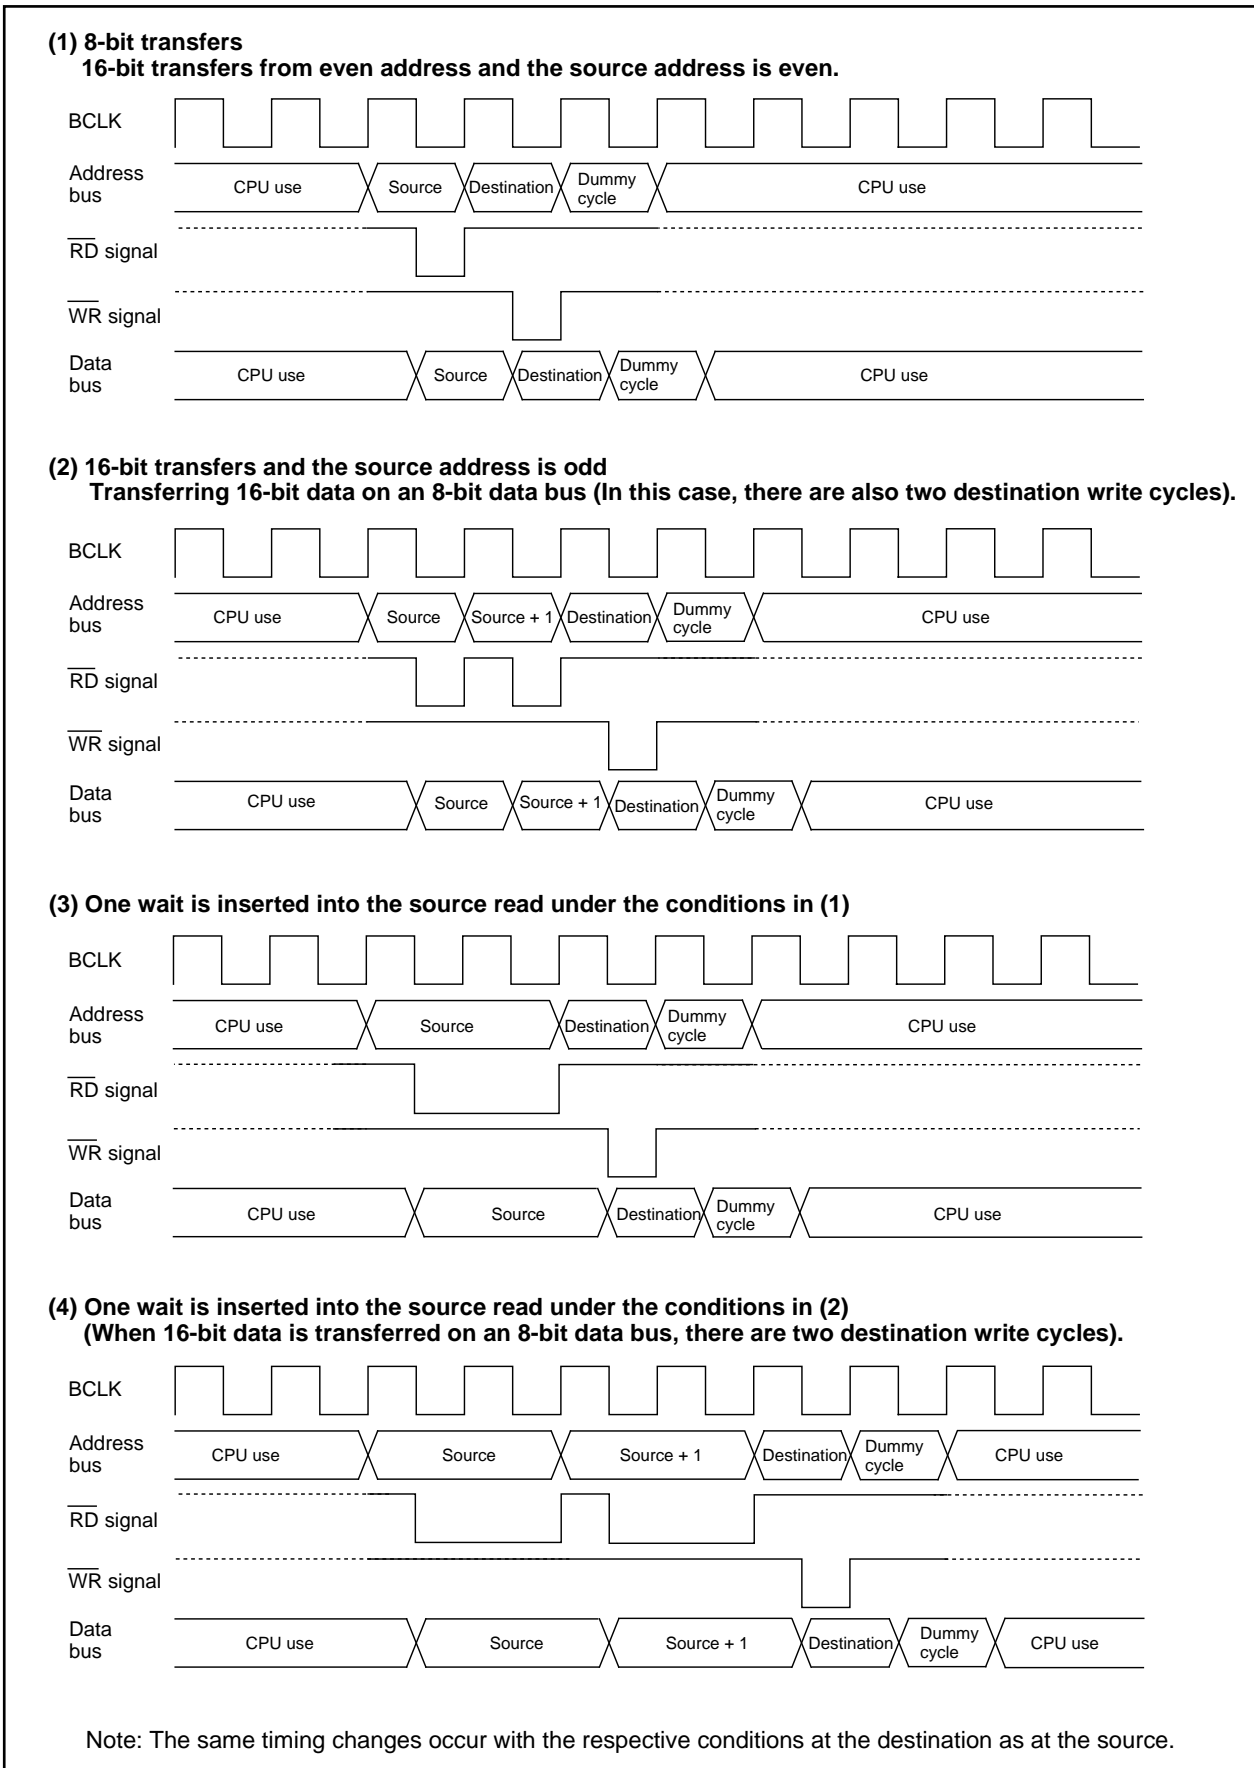

Figure 2.9.5 Example of the transfer cycles for a source read
Figure 2.9.5 shows the example of the transfer cycles for a source read. For convenience, the destination write cycle is shown as one cycle and the source read cycles for the different conditions are shown. In reality, the destination write cycle is subject to the same conditions as the source read cycle, with the transfer cycle changing accordingly. When calculating the transfer cycle, remember to apply the respective conditions to both the destination write cycle and the source read cycle. For example (2) in Figure 2.9.5, if data is being transferred in 16-bit units on an 8-bit bus, two bus cycles are required for both the source read cycle and the destination write cycle.